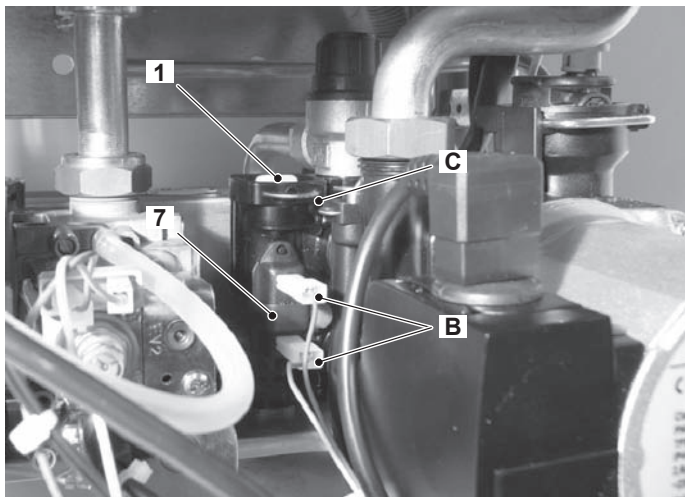
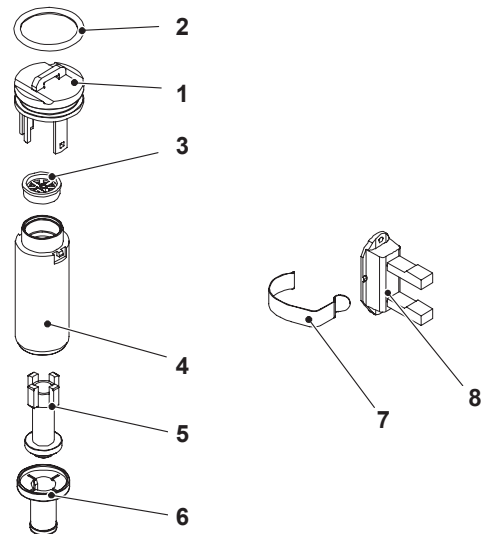

Figure 14.2
Figure 14.3
When the flow rate through the d.h.w. circuit reaches about 2,5 litres/min', the float 5 (Figure 14.3) is dragged upwards and the magnet in it, getting closer to the sensor 8, closes the electric contact that switches the boiler d.h.w. operation ON.
14.2 Nomenclature and location of parts - (Figure 14.3)
- 2 Disconnect the connectors B (Figure 14.2) and measure the electrical resistance between the leads of the sensor. Without water being drawn, the contact must be open. By opening a hotwater tap the contact must be close (electrical resistance zero Ω).
- 2 Disconnect the connectors B and remove the sensor holder spring 7 (Figure 14.2 - Figure 14.3).
- 2 Remove the fork C and pull up the flow switch plug 1 (Figure 14.2 - Figure 14.3) with the help of a screwdriver.
- 3 To remove the filter from the flow switch group separate the filter 6 from the body 4 (Figure 14.3) by levering it.
- 3 Insert the flow limiter 3 as shown in Figure 14.3.